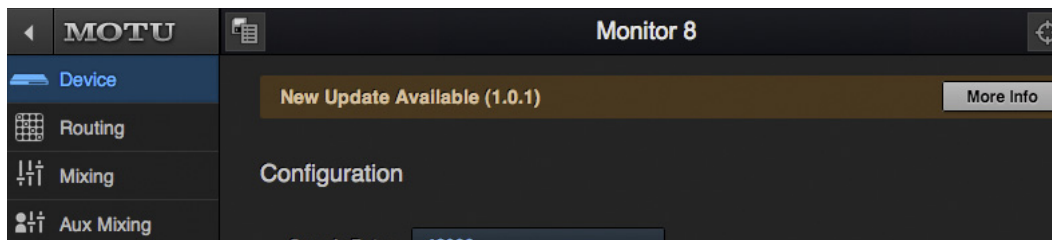

Figure D-1: The firmware update banner appears automatically at the top of the Device tab when your web host has internet access and MOTU posts an update.
- 3 In the *New Update Available* banner (Figure D-1), click *More Info*.